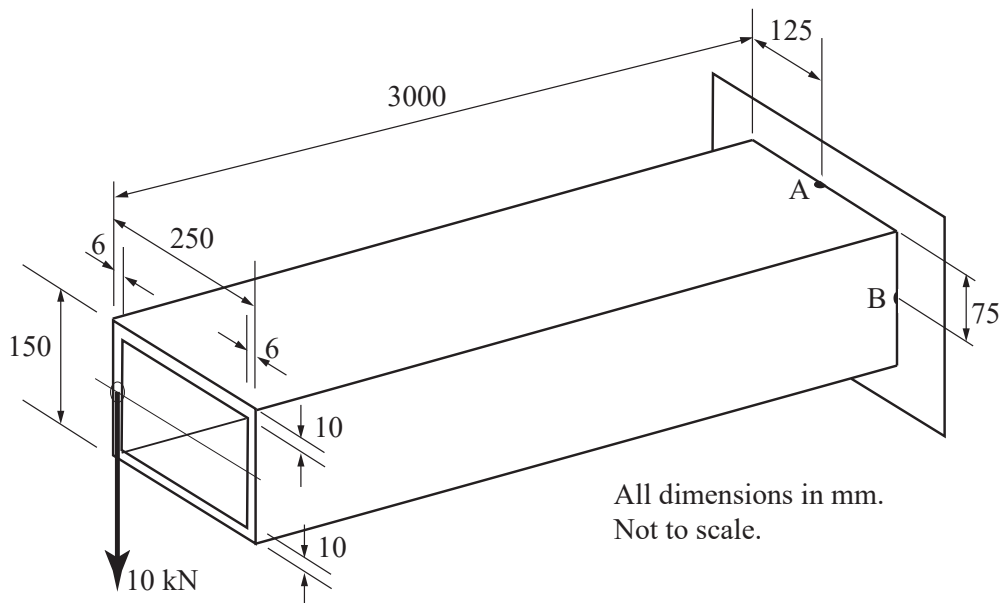

Fig. 3
3 (a) A cantilever beam with a thin-walled rectangular cross-section is to carry a point load of 10 kN applied eccentrically at its tip, as shown in Fig. 3. The line of action of the load is along the mid-wall of the web. The beam is 3 m long, 250 mm wide and 150 mm deep. Each side wall is 6 mm thick whereas the upper and lower surfaces are each 10 mm thick. Assume that all cross-sections remain rectangular, that all behaviour is linear elastic and that self-weight can be ignored. The beam is made of steel with a Young's modulus of 210 GPa and a Poisson's ratio of 0.3.
- (iii) the maximum axial stress at the point A marked on Fig. 3; [2]
- (iv) the maximum shear stress at the point B marked on Fig. 3; [6]
- (v) the maximum shear stress on any plane at the point A marked on Fig. 3. [7]